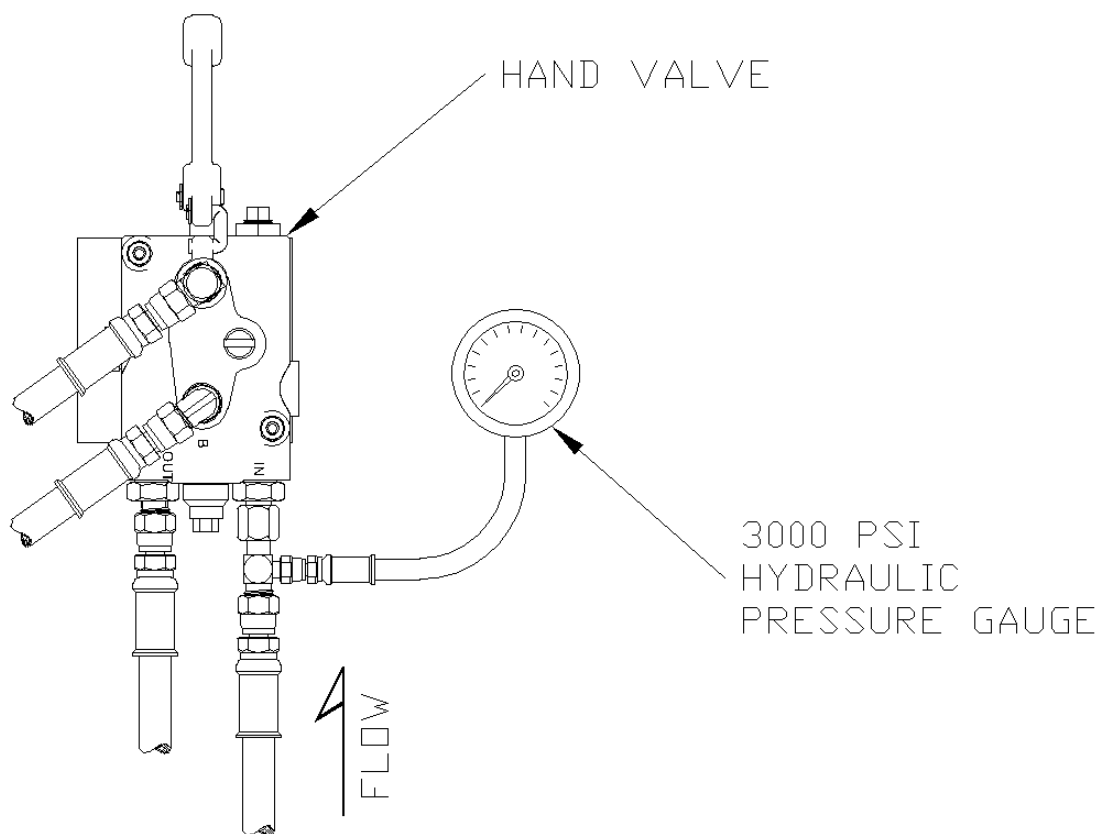

Figure A-5
11. Install the 3000 psi hydraulic pressure gauge with the necessary adapter in the hydraulic line connected to the "IN" port of the hand valve as shown in Figure A-5. **If installing dual lifters, install the hydraulic gauge at either one of the hand valves.**
- f. For dual lifters, install the hydraulic pressure gauge in the "IN" port of the other hand valve as shown in Figure A-5, start the truck's engine, engage the hydraulic system, and repeat step 14.